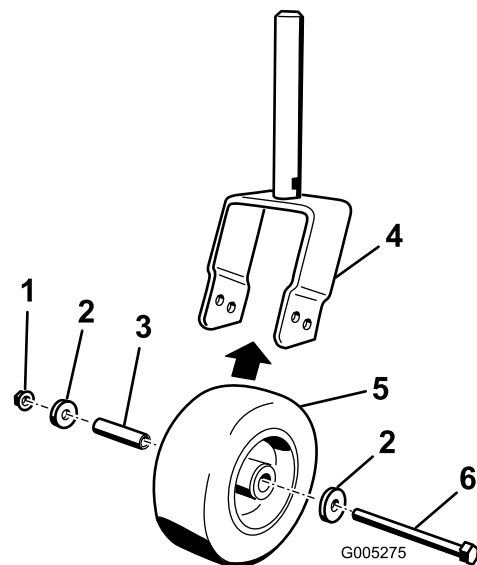

Figure 20
1. Remove the locknut from the bolt holding the castor wheel assembly and washers between the castor fork (Figure 20). Grasp the castor wheel and slide the bolt out of the fork. Remove the tire spanner from inside the wheel assembly.